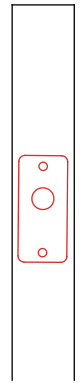
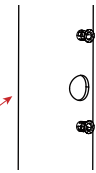
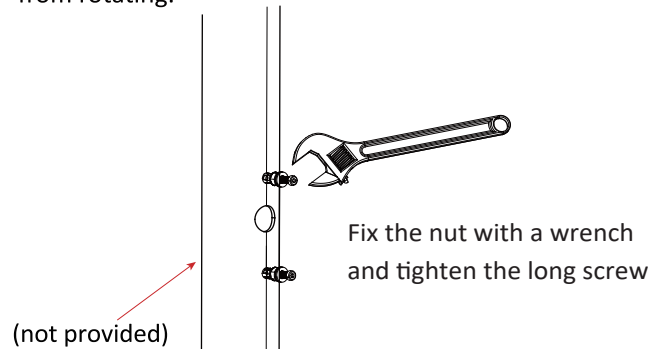

Fig. 4
Fig. 5
Fig. 6
1. Drill holes on the pole and insert the petal nut into the drilled hole for pre-fixing. See Fig. 4, Fig. 5 and Fig. 6.